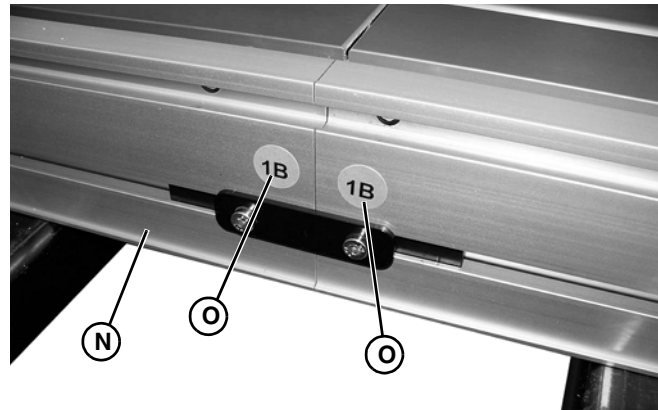

Figure 4
1. Locate and arrange conveyor sections by section labels (Figure 4, item O).